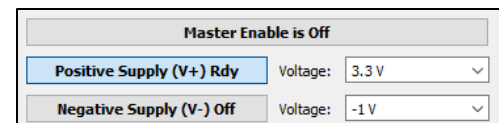

Figure 28: Power with NAD
**Power your circuit (NAD):** The NAD can use the power supplies to power your circuit with 3.3V. Open the Power Supplies and click on "Power Supply (V+) Off" to change it to Rdy as seen in Figure 28. Change the voltage to 3.3V. Click on "Master Enable is Off" to change it to On. To power your circuit, use the red V+ Power Supply wire. Use any of the black ground wires for ground.